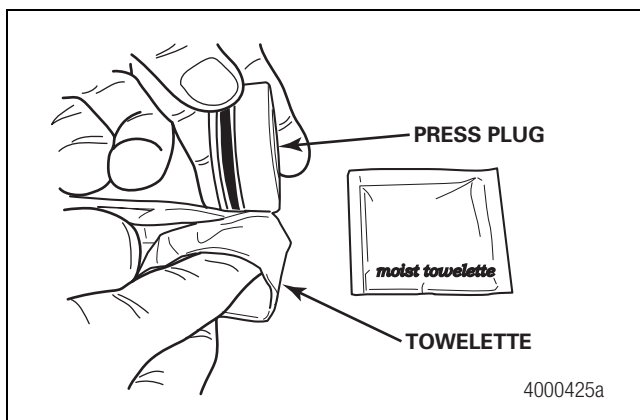

Figure 2.17
12. Clean the exposed O-ring surface and outside diameter surface of one press plug using a towelette provided in the installation kit. Use a new towelette for each wheel end. Protect the cleaned plug from additional contaminants. Figure 2.17.